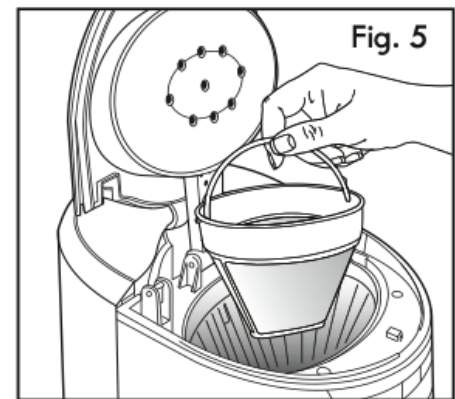

Fig. 5
6. Open the top filter cover. Place either the permanent gold-tone filter or a size #4 cone paper filter into the brew basket (s. Fig. 5).